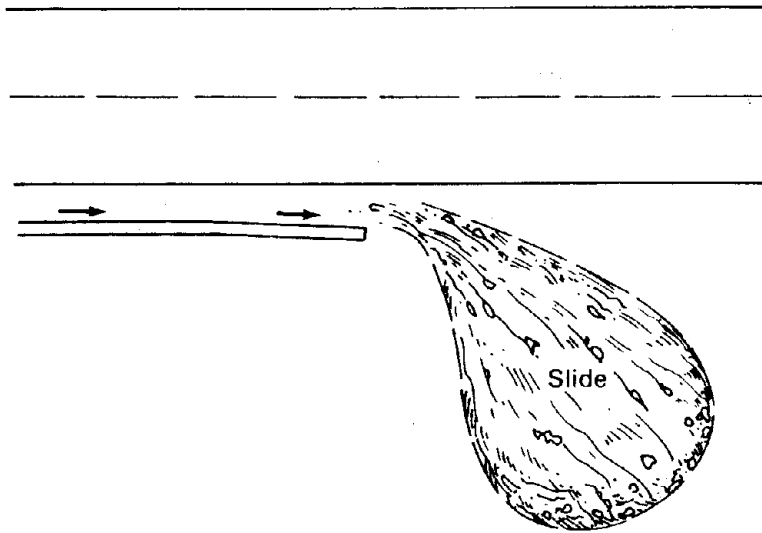

Figure 10. Water diverted to slope.
b. Do not divert water towards slide/slope (figure 10).